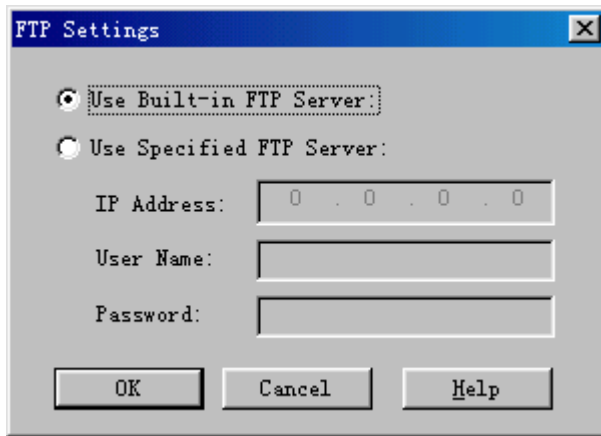

Figure 14-3 FTP Settings dialog box
- 4) Click **Modify...** in the dialog box. The **FTP Settings** dialog box opens up as shown in Figure 14-3.